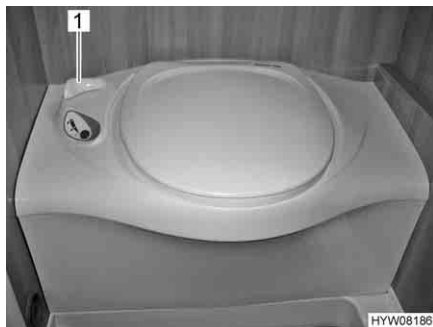

Fig. 247 Thetford toilet
- Before flushing open the sliding trap of the Thetford toilet. To do this, turn the slide lever (Fig. 247,1) in an anticlockwise direction.
- After flushing close the sliding trap. To do this turn the slide lever (Fig. 247,1) in a clockwise direction.